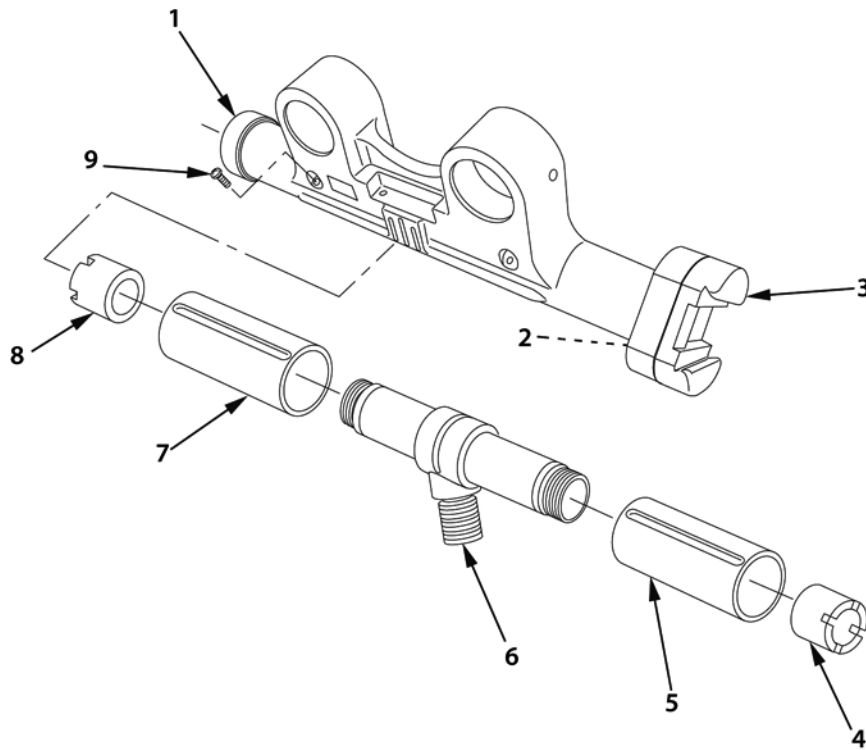

Figure 2. Removal of Flange Tee.
7. Remove two socket head capscrews (Figure 2, Item 9) from traversing yoke (Figure 2, Item 1).
8. Secure traversing yoke (Figure 2, Item 1) in vise.
9. Using spanner wrench and spanner attachment, remove retainer nut (Figure 2, Item 8) from flange tee (Figure 2, Item 6). Slide sleeve bushing (Figure 2, Item 7) from traversing yoke (Figure 2, Item 1).
10. Lift flange tee (Figure 2, Item 6) with second sleeve bushing (Figure 2, Item 5) from traversing yoke (Figure 2, Item 1).
11. Using spanner wrench and spanner attachment, remove retainer nut (Figure 2, Item 4) from flange tee (Figure 2, Item 6). Remove sleeve bushing (Figure 2, Item 5).
Do not remove socket head capscrews (Figure 2, Item 2) or sight adapter (Figure 2, Item 3) from traversing yoke (Figure 2, Item 1).